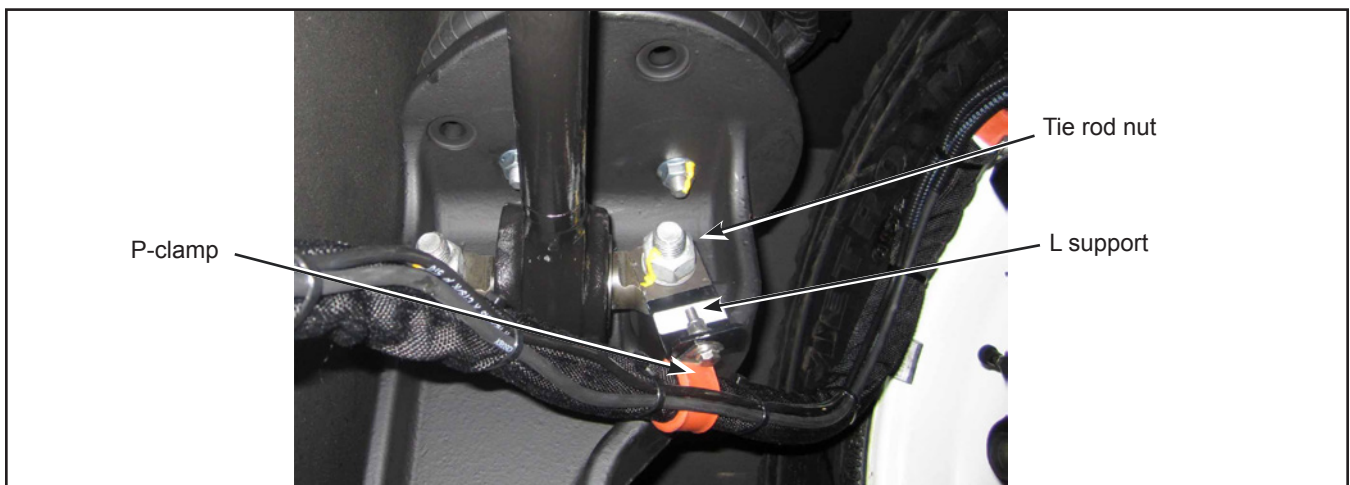

Figure 6 - P-Clamp Mounting
2.6. Loosen the tie rod nut holding the L support. See Figure 6.